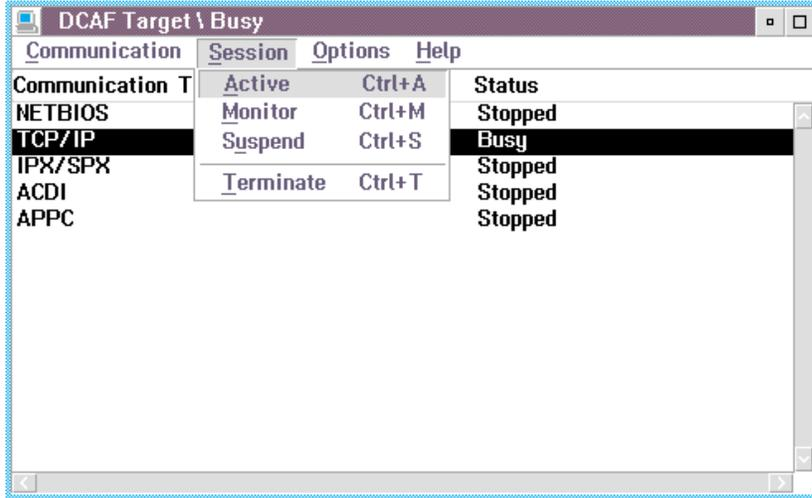

Figure 172. Active Session
3. In the DCAF Target \ Busy window (Figure 172 on page 278), select the Session window, then select the **Active** or **Monitor** option.